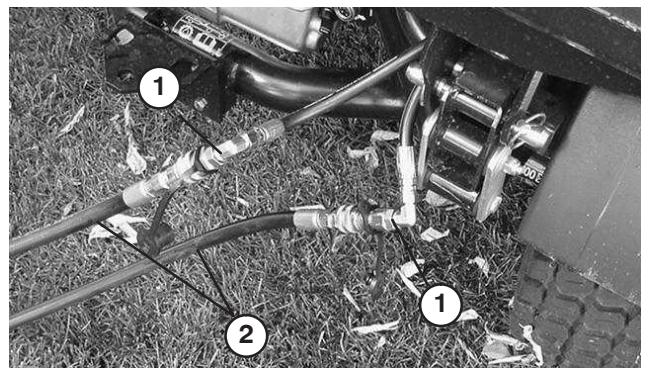

Figure 74
- On the disabled vehicle, connect the two jumper hoses to the hoses that were disconnected (Fig. 74). Cap unused fittings.